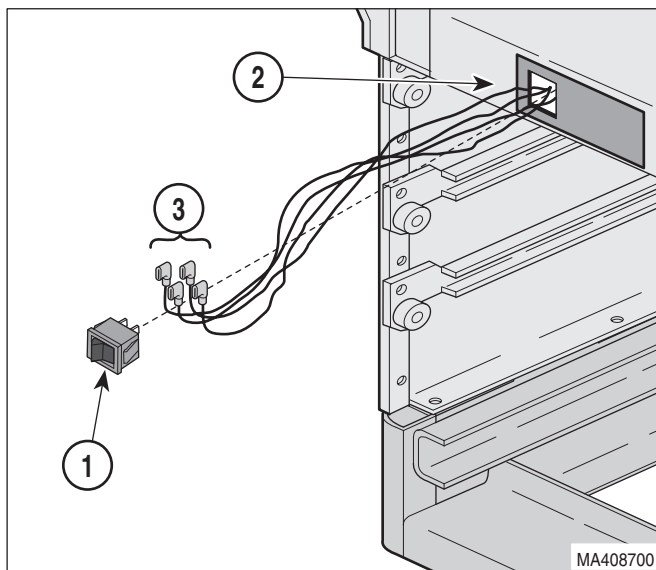

Figure 4-3. Heater On / Off Switch Removal / Installation
- (1) Unplug table power cord from wall outlet.
- (2) Using a standard screwdriver, carefully pry heater switch (1, Figure 4-3) out of upper wrap weldment (2), making sure not to scratch table.
- (3) Tag and disconnect four wires (3) from heater switch (1).